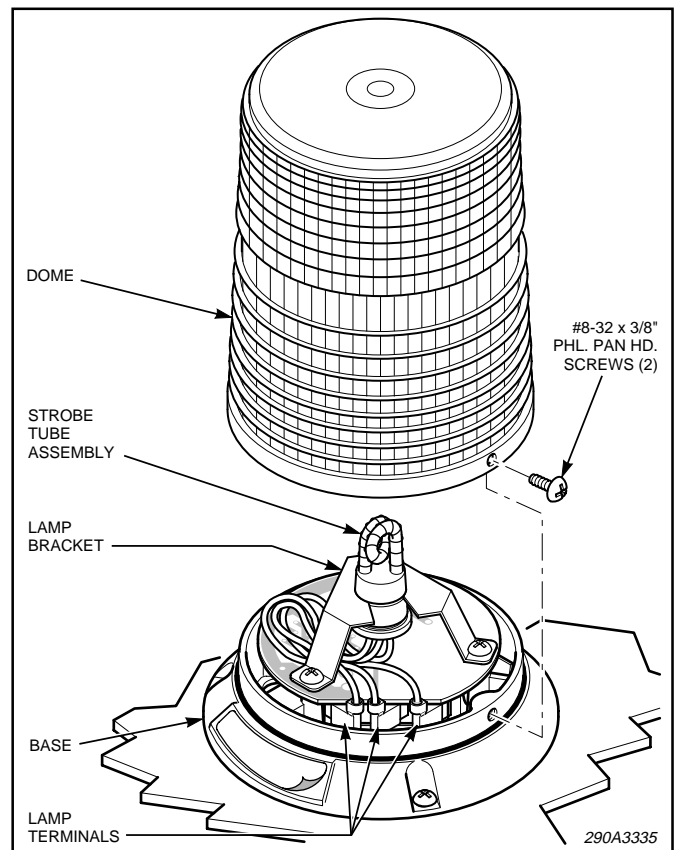

Figure 3.
1. See figure 3. Remove and retain the two screws which secure the dome to the base.
3. See figures 3 and 4. Using a long nose pliers, disconnect the strobe tube's red, white, and black wires at the edge of the PCB.